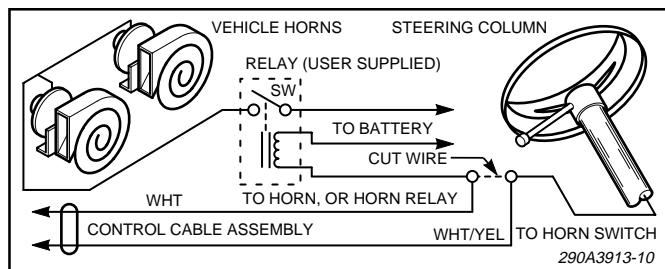

Figure 3-7. Horn Ring Connections.
- b. See figure 3-7. Splice the white/yellow power cable wire to the horn ring side of the
d. Obtain a SPST relay of sufficient contact current capacity to activate the vehicle horn. Refer to figure 3-7 while performing the following steps.